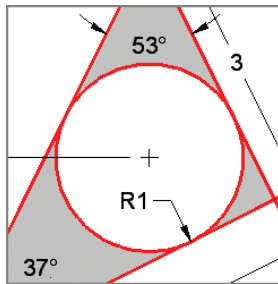

FIGURE 11.19
11. Open the dimension menu in the Annotation panel, and select the Radius tool. Select the circle, and then click a point inside the circle to locate the radius value (see Figure 11.19).